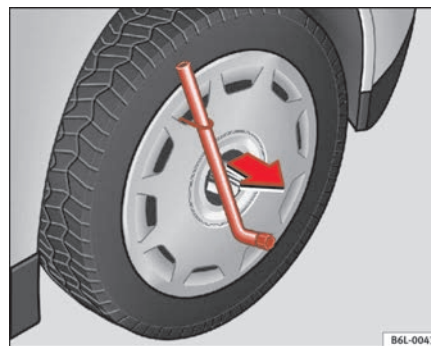

Fig. 140 Remove the complete hub cap
- Remove the wheel cover using the wire hook ⇒ fig. 140.